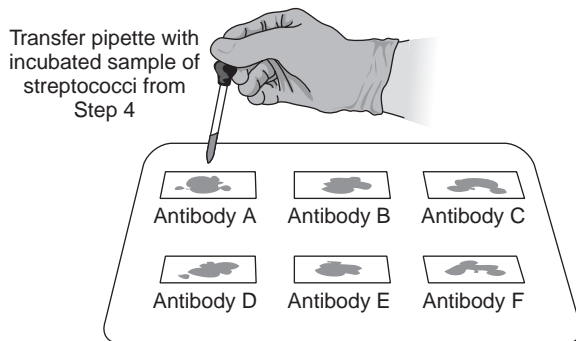

FIG. 18.6. Place 1 to 2 drops of the streptococci-extraction enzyme mixture into each of the six squares on the Strepto-KIT card.
8. Now remove the extraction enzyme from incubation. Using a small Pasteur transfer pipette, dispense 1 to 2 drops of the incubated enzyme into EACH of the six squares on the Strepto-KIT card. Take care not to touch the pipette to any one square (Fig. 18.6).